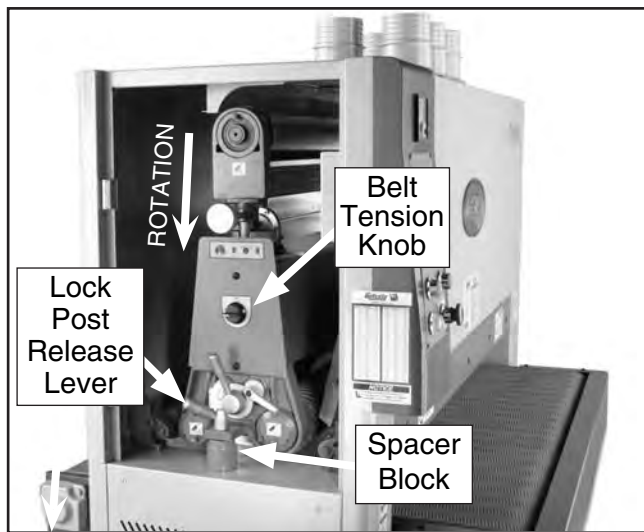

Figure 12. Components used when changing a sanding belt.
2. De-activate the belt tension piston by turning the belt tension knob (**Figure 12**).
3. Remove the lock post release lever (**Figure 12**) by turning it counterclockwise $\frac{1}{2}$ turn and pulling it up and out of the mounting hole.
4. Remove the spacer block (**Figure 12**).
5. Making sure the rotation arrows on the sanding belt point the same direction as those shown in **Figure 12**, install the sanding belt by starting first on the upper roller and then the lower roller.